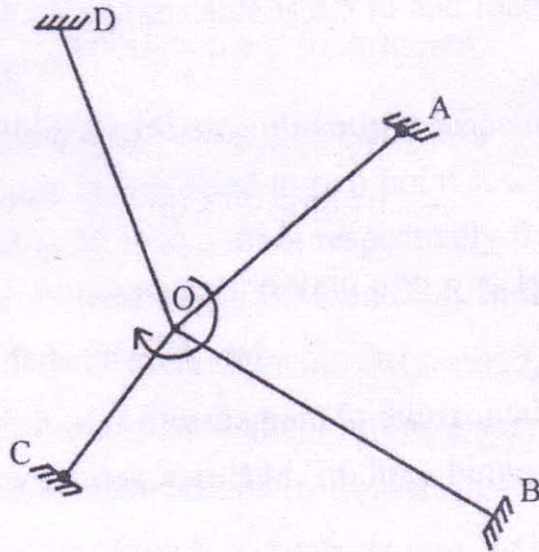

Fig. 3
- (c) Calculate the distributed moments for the members OA, OB, OC and OD as shown in Fig. 3. If their lengths are 150, 200, 100 and 200 cm and moment of inertia are 300, 400, 300 and 200 cm^4 unit respectively. The applied moment at joint 'O' is 10800 N-cm.